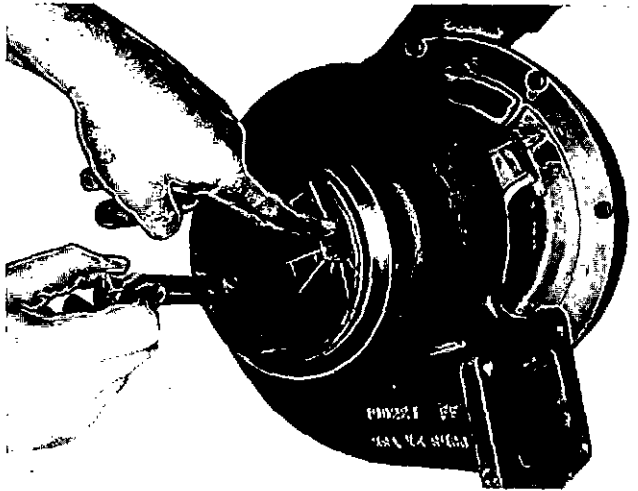

Fig. 3-24, (VTST49). Check the turbine end radial clearance
0.028 inch [0.15 to 0.71 mm] on the compressor end and 0.008 to 0.043 inch [0.20 to 1.09 mm] on the turbine end, Fig. 3-24.